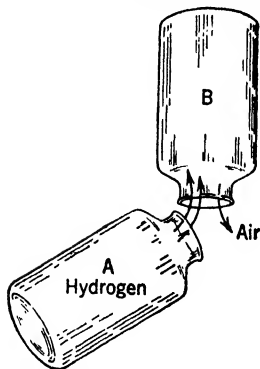

FIG. 5-11.—Hydrogen gas pours up.
1. By pouring hydrogen gas from one bottle to another *upward*. (See Fig. 5-11.)